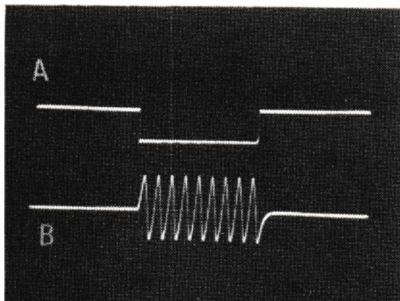

Fig. 16. Coincident pulse waveforms. See text for explanation.
The double beam (two trace oscilloscope) is invaluable for simultaneous display of two events, each time related to the other, and Fig. 16 (A) shows a square pulse (negative going) which has been used to gate a tone burst generator (B). The trace is fast enough to display one pulse so that close examination of time relationship can be made i.e., the tone burst starts its first cycle (positive going) precisely with the leading edge of the gate pulse.